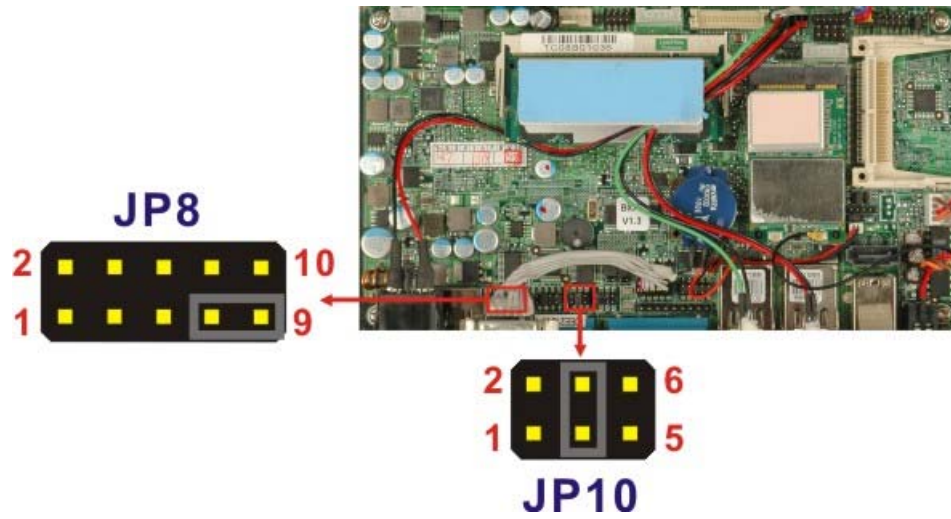

Figure 3-5: COM1 and COM3 Pin 9 Setting Jumper Locations
- Jumper Location:** See Figure 3-5
The COM1 and COM3 Pin 9 Setting jumper locations are shown in **Figure 3-5** below.